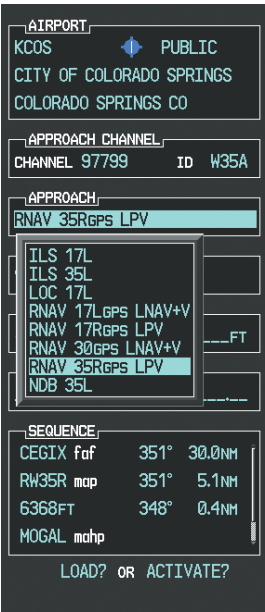

Figure 5-125 List of Available Approaches
c) Press the ENT Key. A list of available approaches for the destination airport is displayed as in Figure 5-125.
d) Turn either FMS Knob to select the LPV approach for 35R as shown in Figure 5-125.